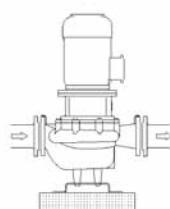

Fig. 1
(2) Avoid unauthorised access by using the appropriate security measures such as fencing off the pump.
(3) Install the pump as near as possible to water source, ensuring that the difference between the water level and pump shaft center line (geometric height) is minimum, and suction pipe length is as short as possible.
(4) The sum of suction head and total head of the pump must be less than maximum admissible pressure..
(5) Mounting of the pumps must be done as indicated on Fig. 1